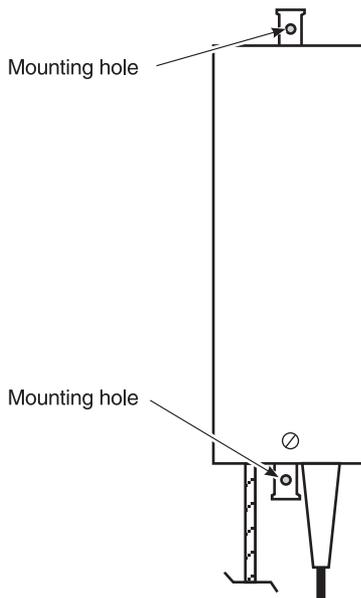

Figure 7. *Mounting Hole Locations (Front View)*
- 2 Place the HRE-500 in the chosen mounting location, then mark the mounting hole locations. Figure 7 shows the mounting hole locations on the enclosure.